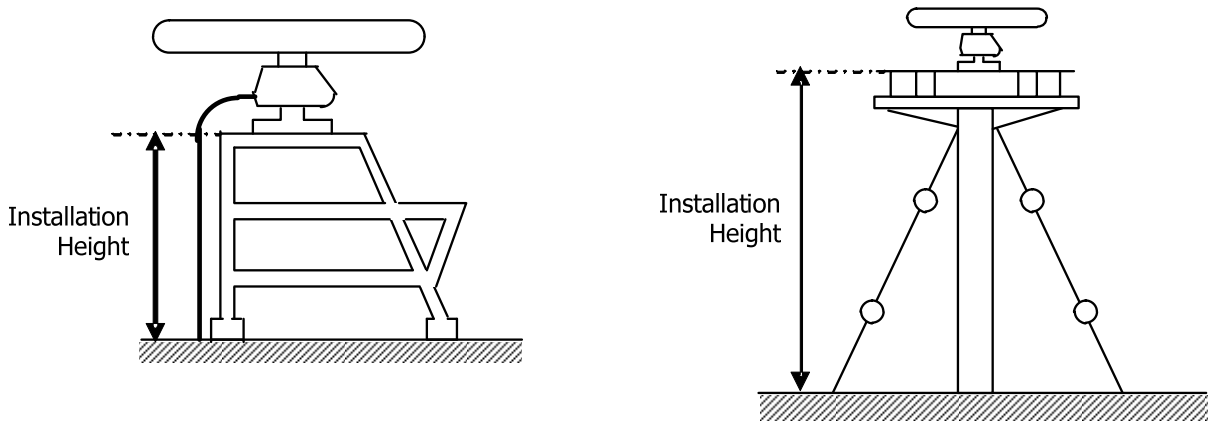

Fig 2-17 Mounting rack and mast for the scanner
- If it is considered that sufficient installation height cannot be provided when the scanner is installed directly on the roof of the wheelhouse, use a mounting rack or radar mast (**Fig 2-17 Mounting rack and mast for the scanner**). Normally, when the scanner installation height is less than 2 meters from the roof of the wheelhouse, provide a mounting rack assembled at an angle frame to install the scanner. When the scanner installation height is 2 meters or higher from the roof of the wheelhouse, provide a cylindrical radar mast to install the scanner. Consider the convenience of the service staff who take care of installation, maintenance, adjustment, and repair of the scanner by providing adequate footholds to the mounting rack and the radar mast.